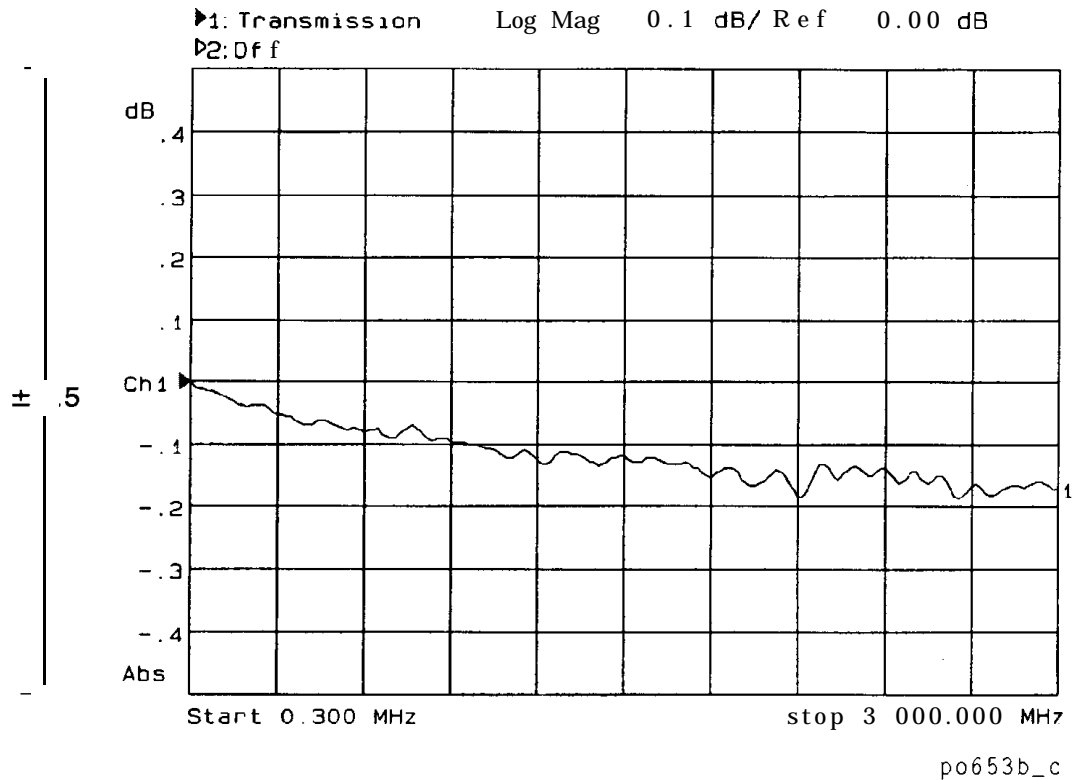

Figure 2-7. Verify Transmission Measurement
4. Verify that the data trace falls within ± 0.5 dB of 0 dB. See Figure 2-7 for a typical result.